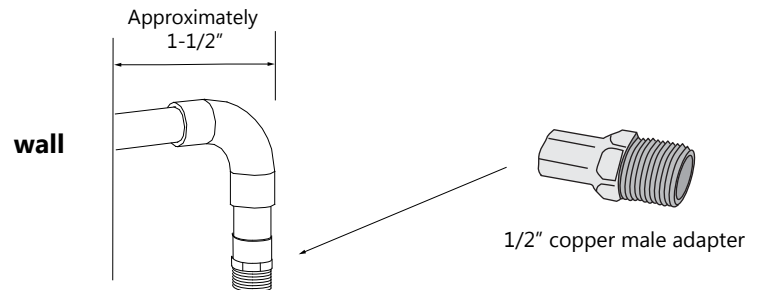

Fig 1
1. The stub-outs for the shower panel should be 1/2" copper pipe, angled down with 90-degree elbows, extending approximately 1-1/2" from the wall, with a 1/2" male threaded adapters on the ends. That will make attachment of the unit's supply lines easier and allow the unit to sit flush against the wall. Please note the rear opening width of the shower panel unit and be sure your stub-outs are close enough together and at the proper height for easy installation. If this unit is a replacement, make sure all unnecessary wall openings are closed prior to installation. **(Fig 1)**